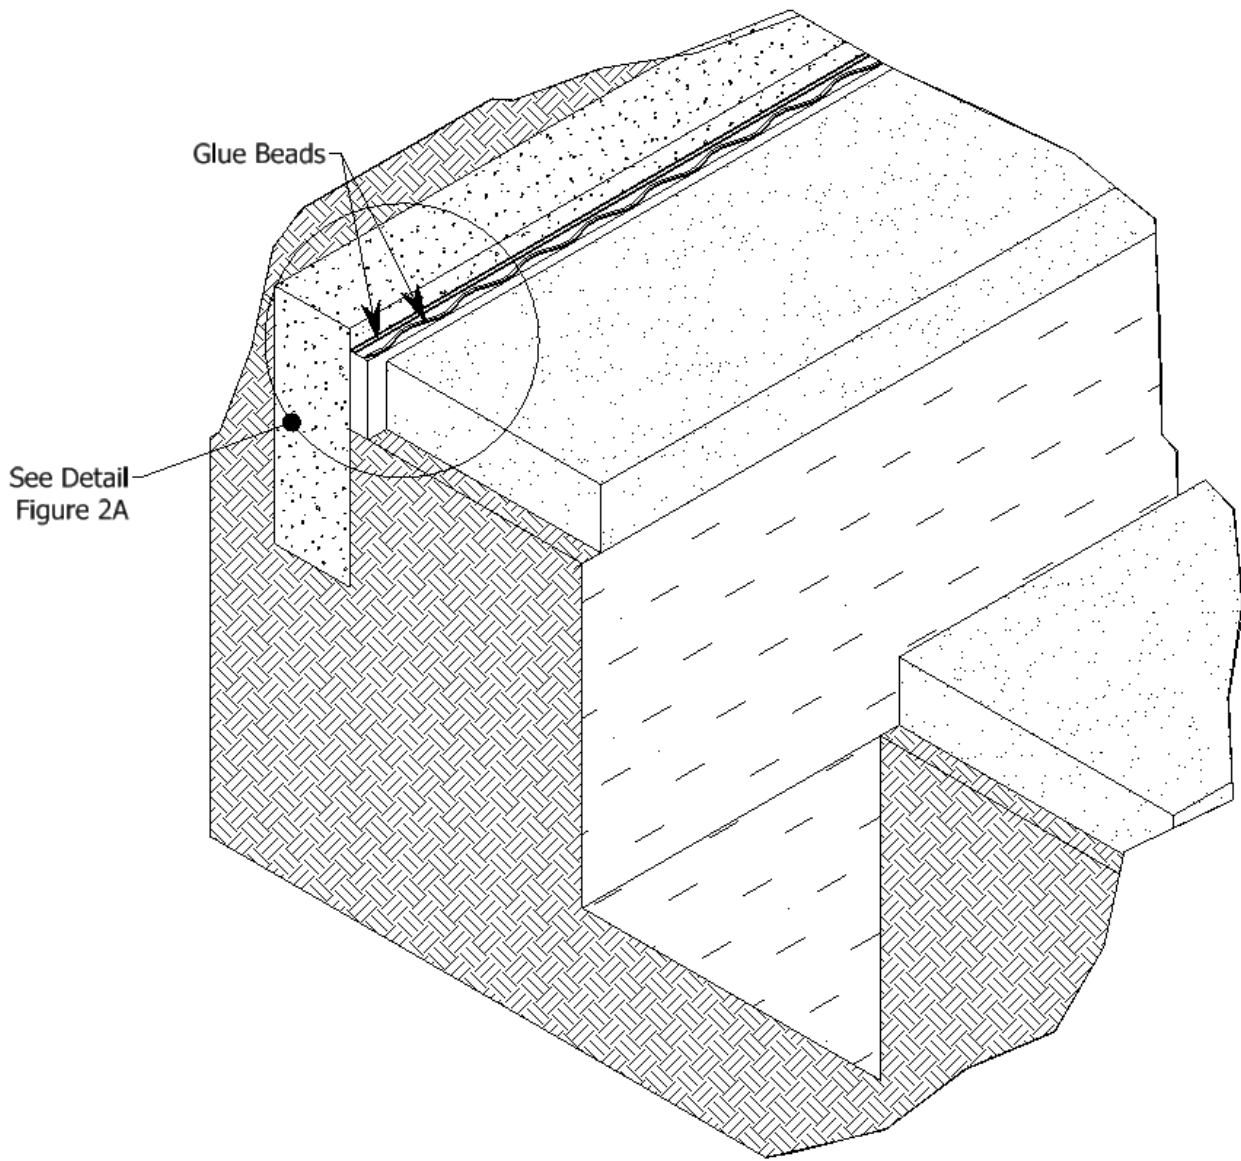
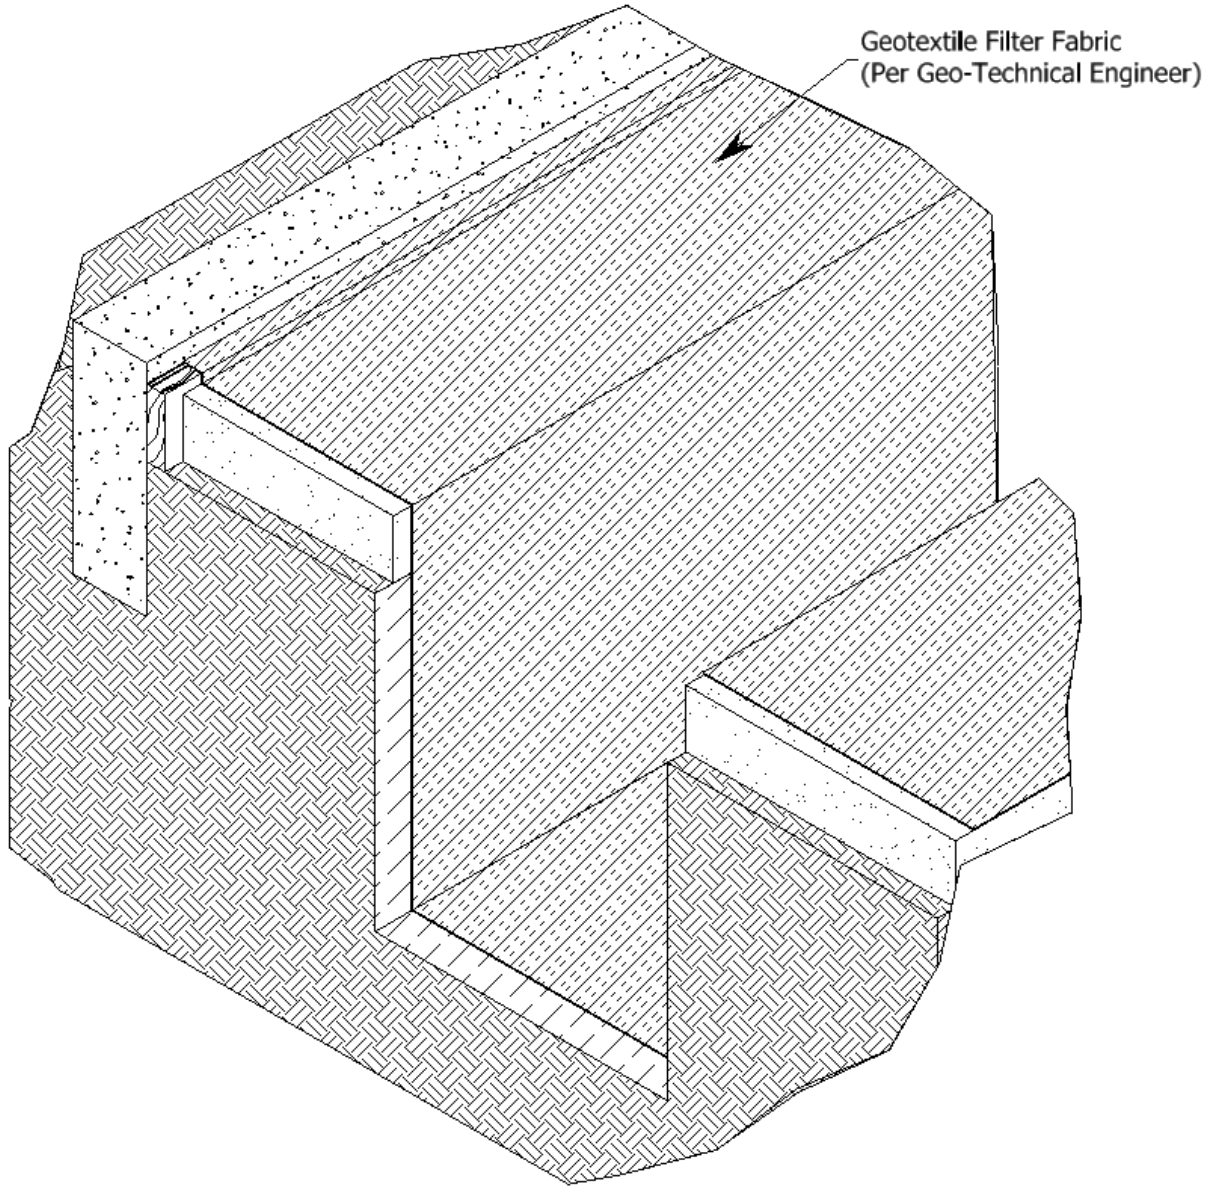

Figure 2
Figure 3
3. Install the geo-textile filter fabric into the trench excavations. Firmly attach one end of the filter fabric roll to the field wood nailer using manufacturer's approved adhesive (figures 2 and 2A). The filter fabric material should lay smoothly against the trench excavation sidewalls and bottom of the trench. The filter fabric shall extend a minimum of three feet past each trench line (figure 3). Continue this process until all the trenches have filter fabric installed. Be sure to overlap (4 to 6 inches) and properly affix all filter fabric seams using manufacturer's approved adhesive in accordance with manufacturers recommendations.